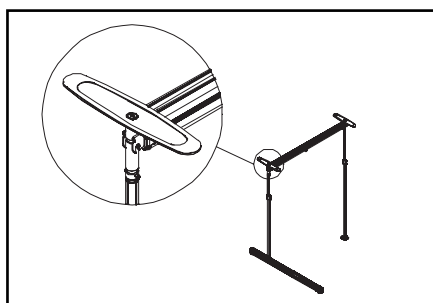

Figure 16
- a. For the 2-post assembly, use the higher set of pins (Figure 16).